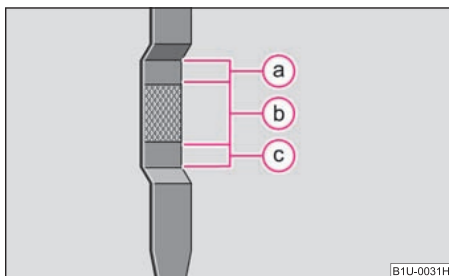

Fig. 152 Dipstick
- Unscrew the cap of the engine oil filler opening ② ⇒ fig. 152.